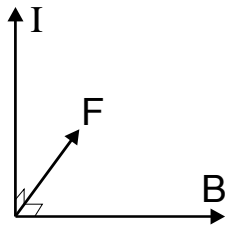

Figure 1.
Magnetic blowouts function as a result of the Lorentz force law which describes how a force (F) is applied to the arc in a direction perpendicular to both the magnetic field (B) & the current flow (I) as shown in figure 1. By using this effect to displace the arc from its direct current path, the path length is increased & the arc extinguished at a higher current / voltage rating than would be possible without the magnetic field present.